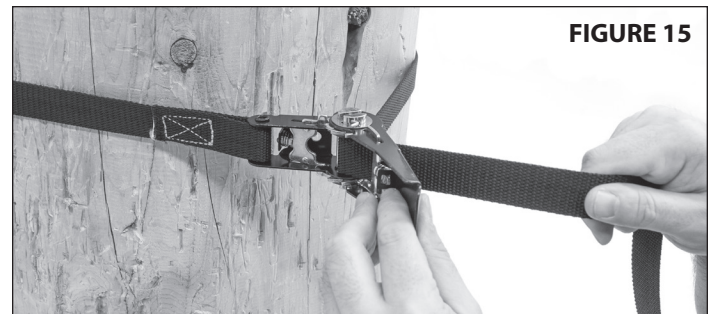

FIGURE 15
- b. Pull tail of long strap of stabilizer bar ratchet strap (37) until most of the slack is taken out. Be sure entire strap is even and at the same level all around tree. "Ratchet" tight to tree, ensuring the two contact points on stabilizer bar bark biting plate are dug into the tree surface securely. This will securely attach the stabilizer bar to tree. **SEE FIGURES 15 AND 16.**